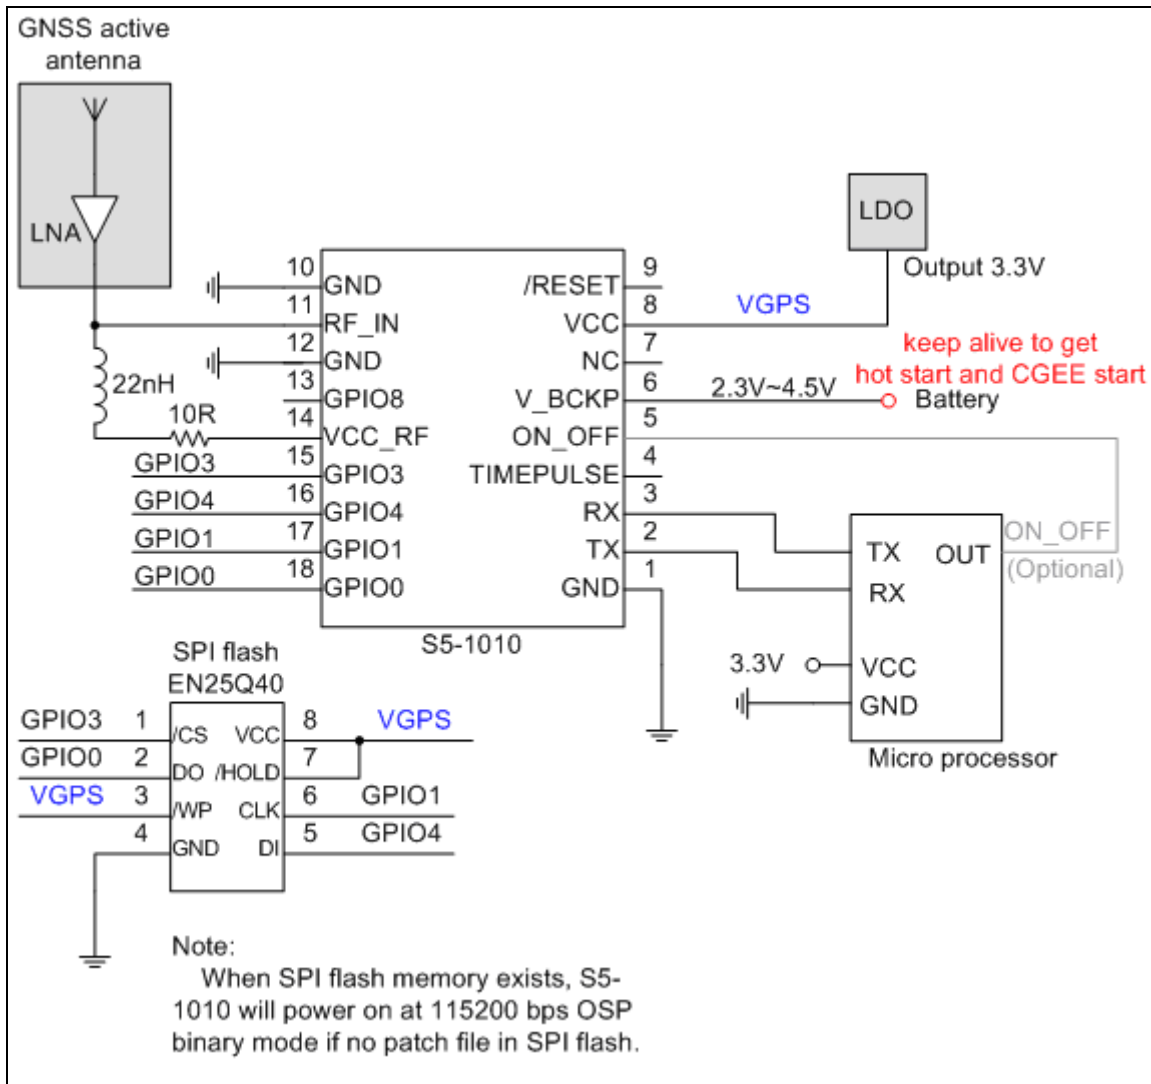

Fig 3-4 Typical application circuit that connects an external SPI flash memory.
4. If no external SPI flash (see Fig 3-4) is connected, GPIO0 and GPIO1 pins are used to select baud rate of UART at power-on. User can connect GPIO1 with a 2K ohm pull-up resistor to change baud rate to 4800bps.